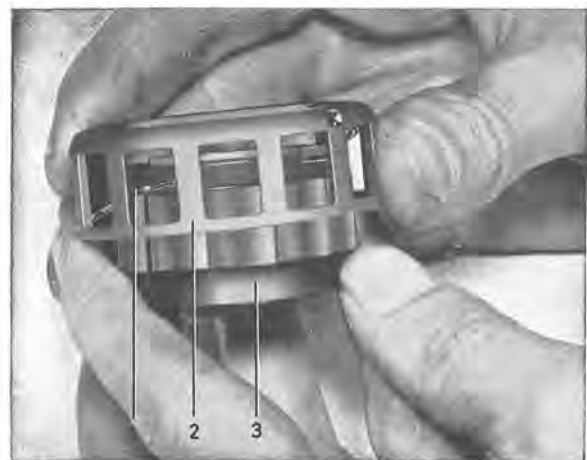

Fig. 4-51. Assembling uni-directional clutch, I
5. Assemble the uni-directional clutch, spring and roller cage, see Fig. 4-51. Turn the roller cage clockwise as far as it will go and lock it in this position with a key as shown in Fig. 4-52. Place in the rollers. Tie a piece of rubber band or string round the rollers.